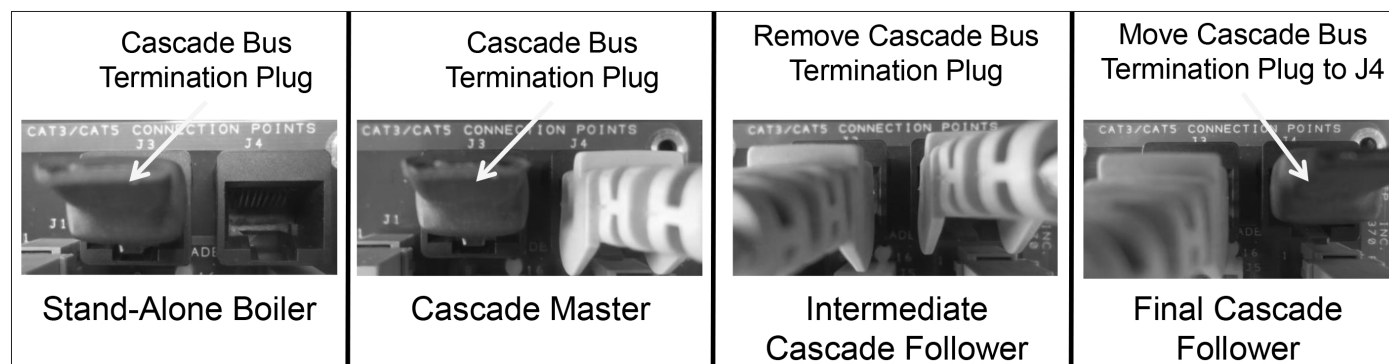

Figure 25 - Cascade Termination Plug Detail
1. A Cascade Bus Termination Plug has been installed on the customer connection board of this boiler. The purpose of this plug is to stabilize communication between multiple boilers and reduce electrical "noise". See Figures 25 and 26 for Cascade Bus Termination Plug installation detail.